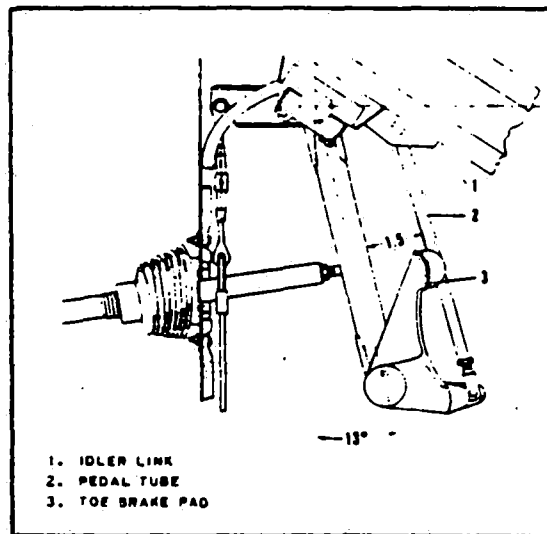

Figure 5-9. Adjustment of Brake Pedal
c. Install the center (13) and right bearing blocks (9). Use shims (.010, P/N 41371-02; .015, P/N 41371-03; .032, P/N 41371-04) as required between bearing blocks to allow the tube a snug fit yet be free to rotate.
d. Install bolts (8) that secure the right side inboard pedal (10) to the torque tube.
f. Secure the steering rods (2) and (11) to the center set of rudder pedal torque arms (10 and 15) by installing screws and nuts. The heads of the screws should be outboard.
h. For the left and/or right rudder pedals with toe brakes, check that there is 1.50 inches between the aft surface of the pedal tube (2) and the aft surface of the toe brake pad (3). (Refer to Figure 5-9.) Adjust the clevis bolt (6) at the top of each brake cylinder by removing the cotter pin, nut, washer and bolt and rotating the clevis to the desired adjustment. Reconnect the clevis when adjusted and tighten jam nut.
i. Connect the fork ends of the turnbuckles (22) to the arms of the torque tube assembly with bolts, washers and castellated nuts.